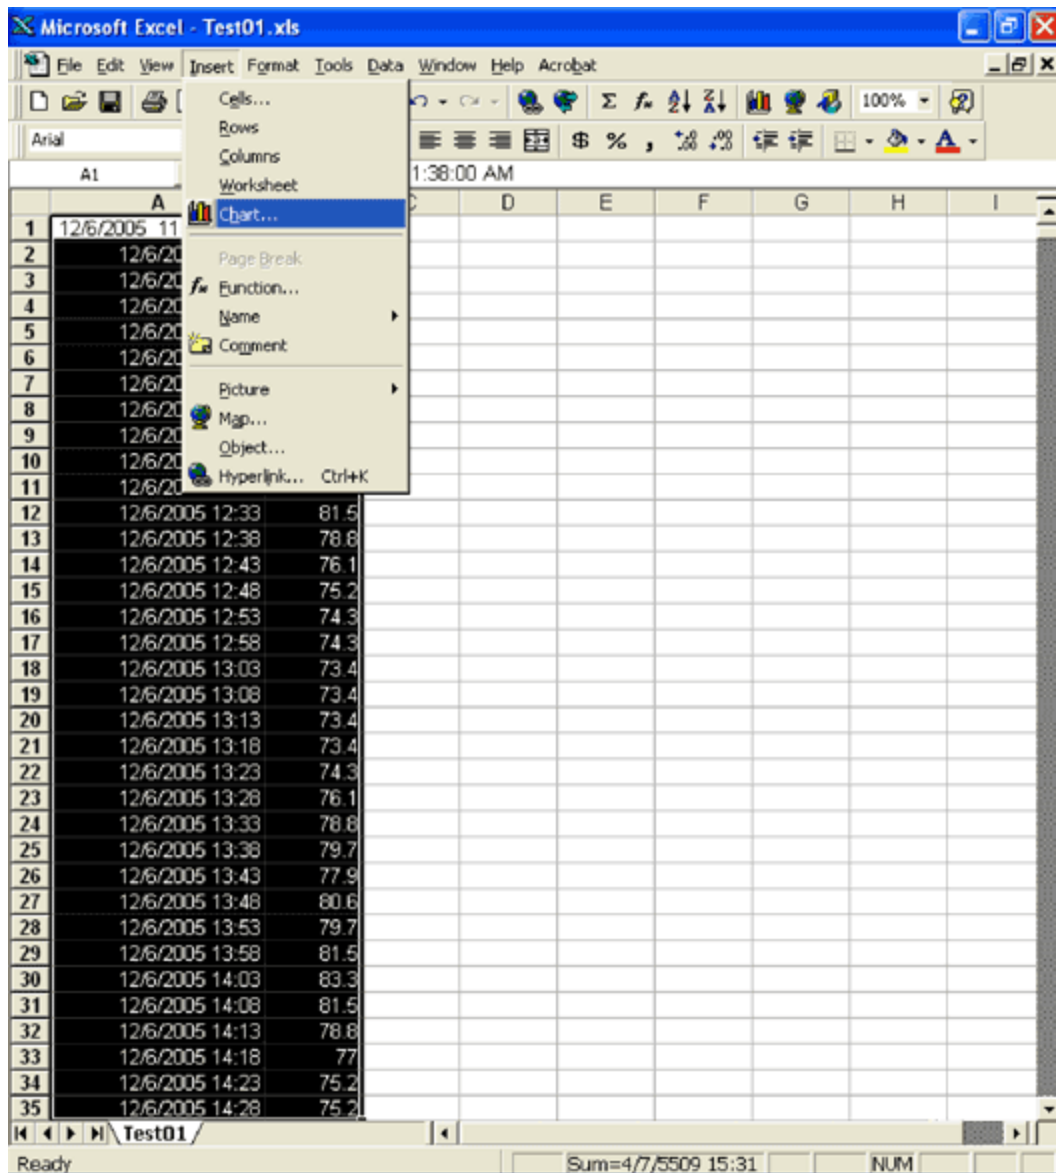

Figure 11. After your data is highlighted, you must select the chart format.
3. Next select "Chart" from the menu under "Insert" (Figure 11).